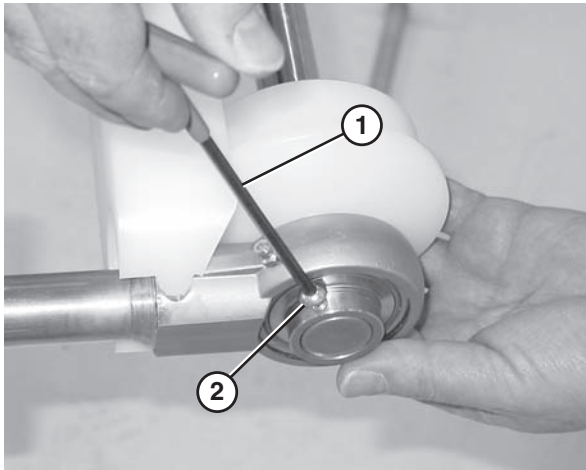

Figure 79
5. Use a hex wrench (**Figure 79, item 1**) to tighten the bearing shaft fasteners (**Figure 79, item 2**) to 54 in•lbs (6 N•m). Check after 24 hours of conveyor use.